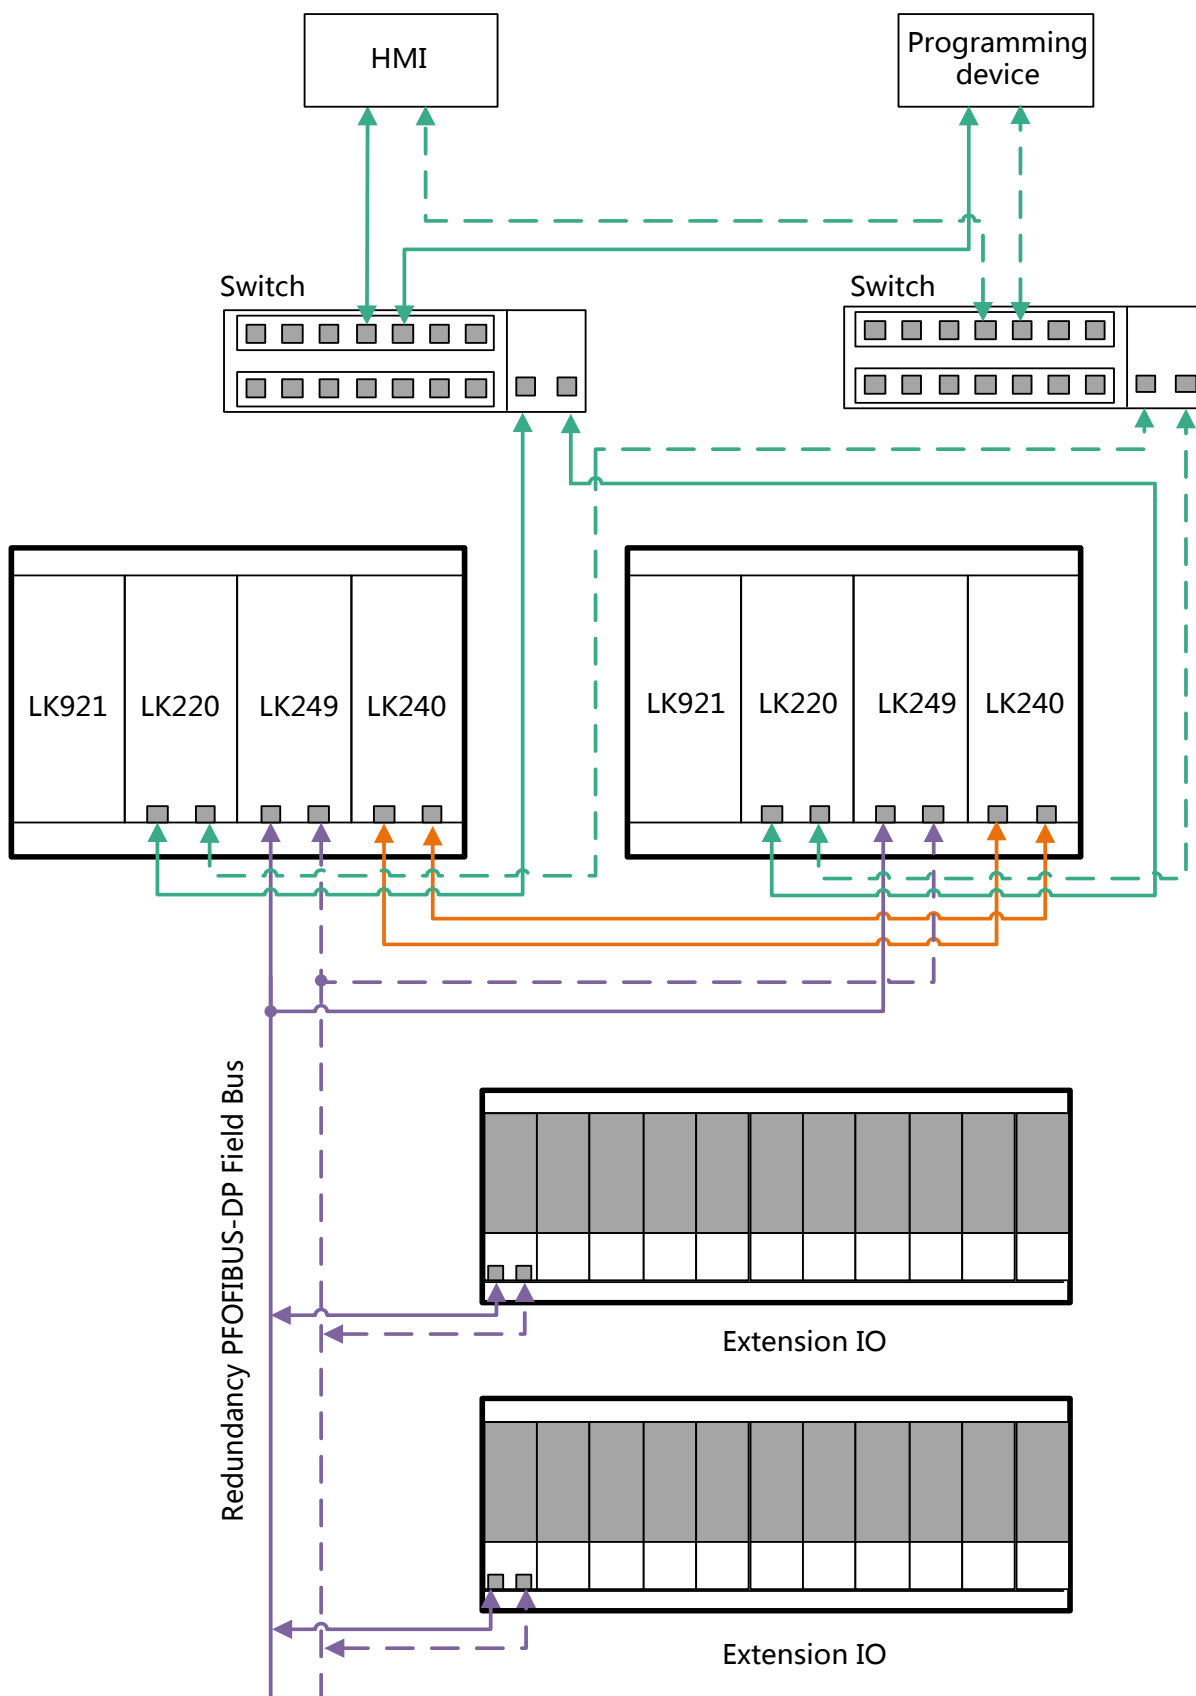

Figure 2-4 Network Connection of LK Master Controller
- The extended IO modules are connected by LK232 in the Figure 2-4, if the extended IO modules are connected by LK234, wiring way please see Chapter 6.3.3.6 Wirings.
As shown in Figure 2-4, it can cascade multiple extension backboards to increase I/O via the redundant PROFIBUS-DP bus interface (DP1, DP2) on LK249 module. It shall adopt two LKA104 modules to connect DP interface between LK249 module and extension backboard, with the communication rate 500 kbps, 187.5 kbps, 1500 kbps optional and the transmission medium of RS485 shielded twisted pair.